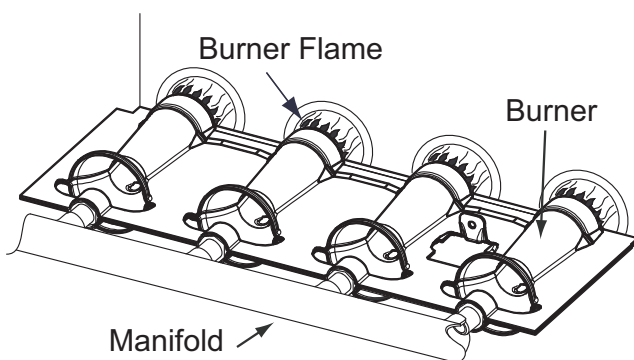

Fig. 60 - Burner Flame
8. Reverse items 6 through 1 for reassembly.
11. Check furnace operation through 2 complete heat operating cycles. Look at burners. Burner flames should be clear blue, almost transparent. See Fig. 60.